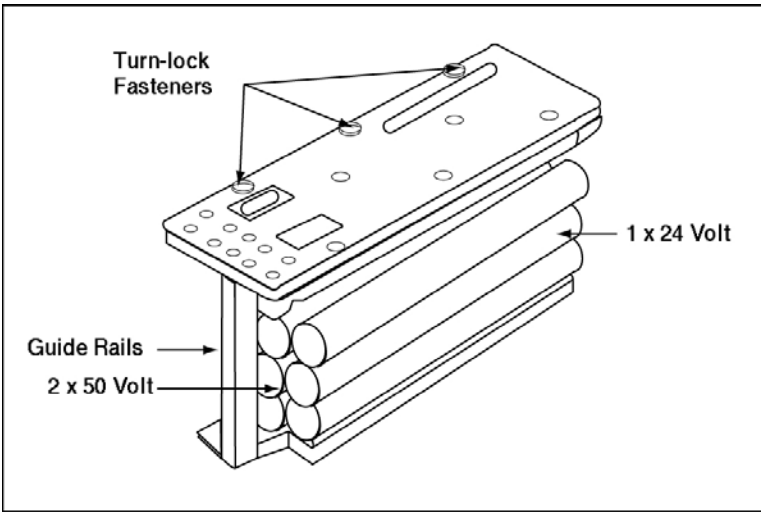

Figure 2-2-5: Battery Assembly
16. **Battery Assembly.** The battery is a field-replaceable, plug-in unit that supplies three independent direct current (dc) voltages to operate the TOW. The battery assembly contains two identical rechargeable 50V dc batteries and one rechargeable 24V dc battery. Each battery is a heavy-duty, nickel-cadmium type using a potassium hydroxide electrolyte. Under normal conditions, the battery assembly is non-hazardous, however, if a battery should become damaged, care should be taken to prevent any part of the body (especially the eyes) coming into contact with the electrolyte since it is highly corrosive. The battery assembly mounts in the top compartment of the MGS and is secured in place by six turn-lock fasteners. The battery assembly is capable of firing 50 missiles. A self-test will cause as much drain on the battery as two missile firings (see Figure 2-2-5).